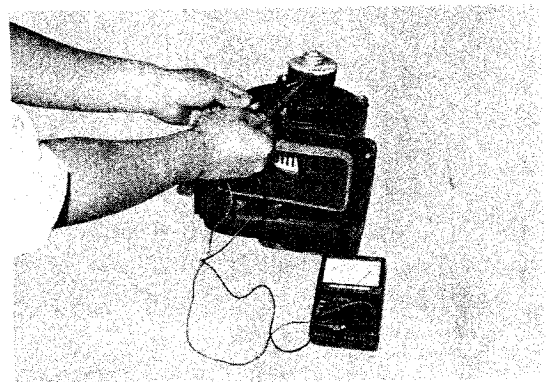

Fig. 70
If the circuit tester indicates infinity ( $\infty$ ), or zero (0) ohm, replace the blower motor. See Fig. 70.